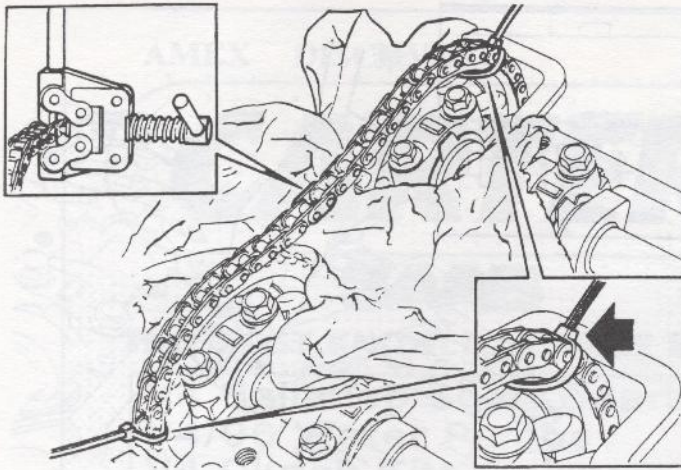

Figure 4: Securing chain.
6. Cover the surrounding area of the chain with cloth. Secure the chain on both sides with tie straps. See Figure 4.
7. Separate the chain by pressing out a link with special tool P/N 84 94 637 and then use a pair of pliers to remove the link. See Figure 4.